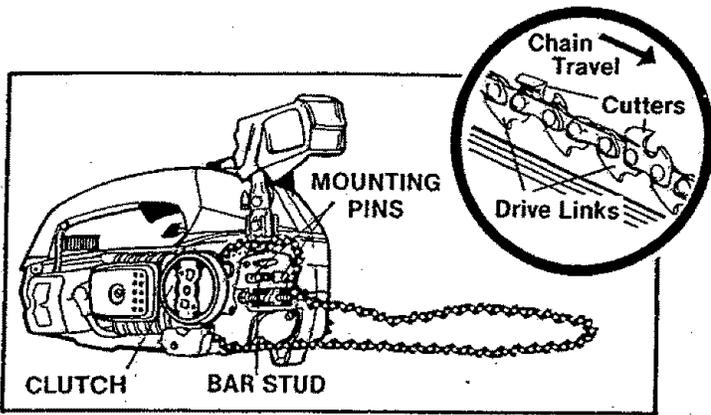

Figure 3
- c. Hold chain with cutters facing as shown in Figure 3.
- d. Place chain over and behind the clutch drum, onto the sprocket. Figure 3.